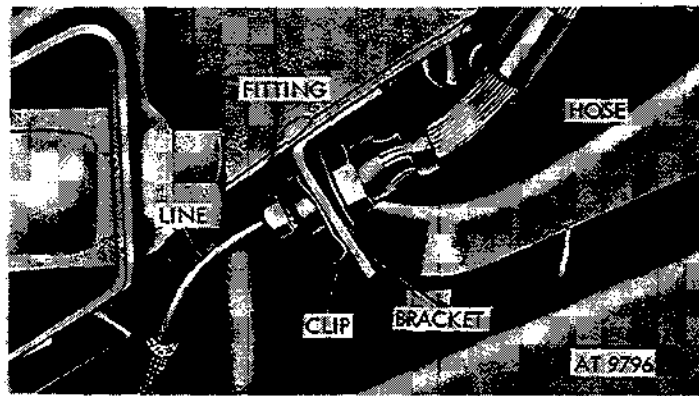

Figure 2-378. Brake lines, fittings and hose removal.
a. Removal. Refer to figure 2-378.
(1) Unscrew connector fitting from hydraulic line at hose clip bracket.
(2) Slip clip off hose fitting.
(3) Pull hose out of bracket. Disconnect opposite end of line to be removed from tee or backing plate.